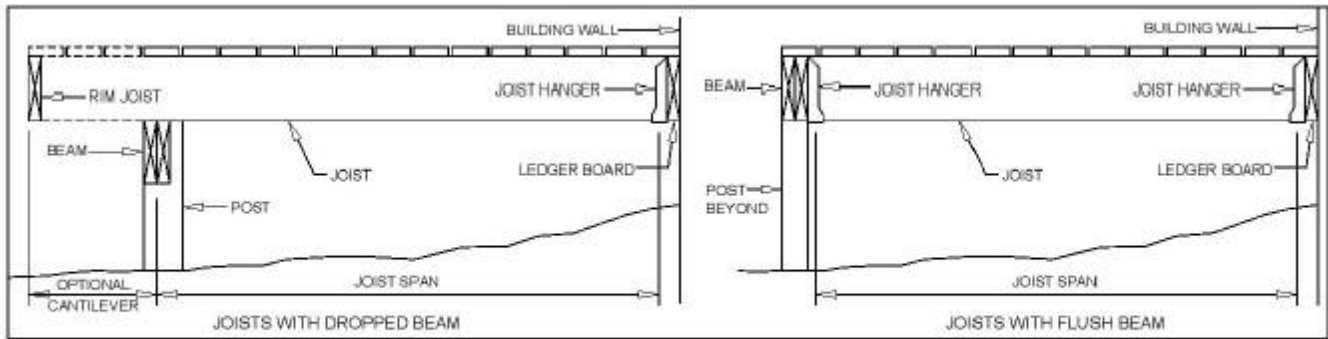

FIGURE R507.5
- Refer to **Figure R507.5** for typical joist span details.